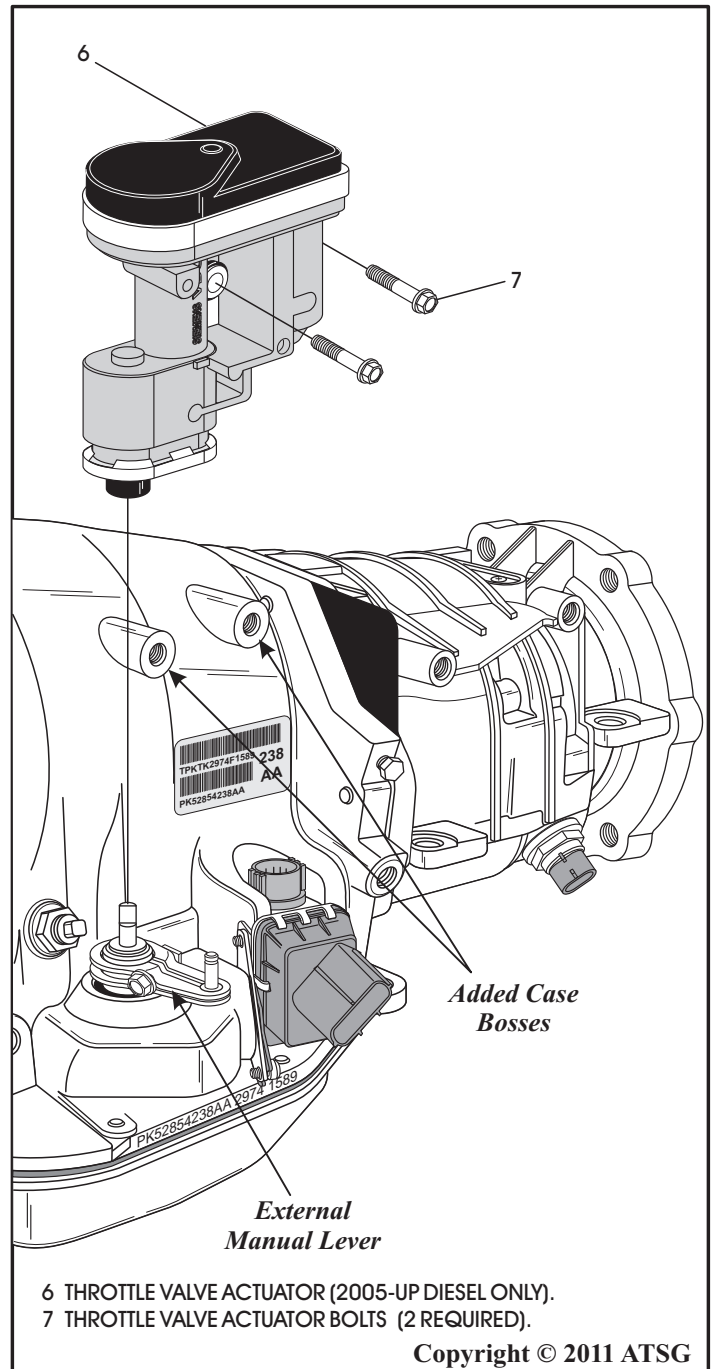

Figure 247
81. Install the external manual shift lever, as shown in Figure 247.
82. If you have 2005-up Diesel, install the throttle valve actuator, as shown in Figure 247, torque the two mounting bolts to 8.5 N·m (75 in.lb.).